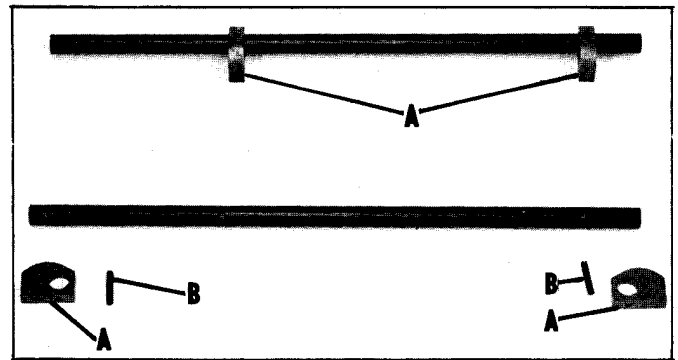
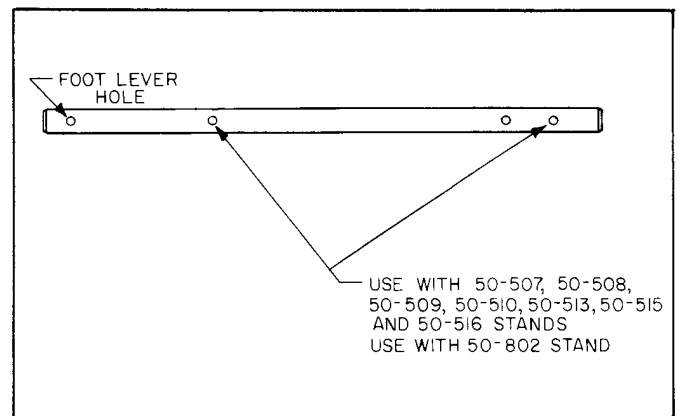

Fig. 1
Fig. 2
2. Assemble the four cams (A) to the two shafts, using the four 7/8" long roll pins (B), as shown in Fig. 1. The roll pins must be started straight when assembling the cams to the shafts. Refer to Fig. 2, to determine the correct holes to use in the shafts.